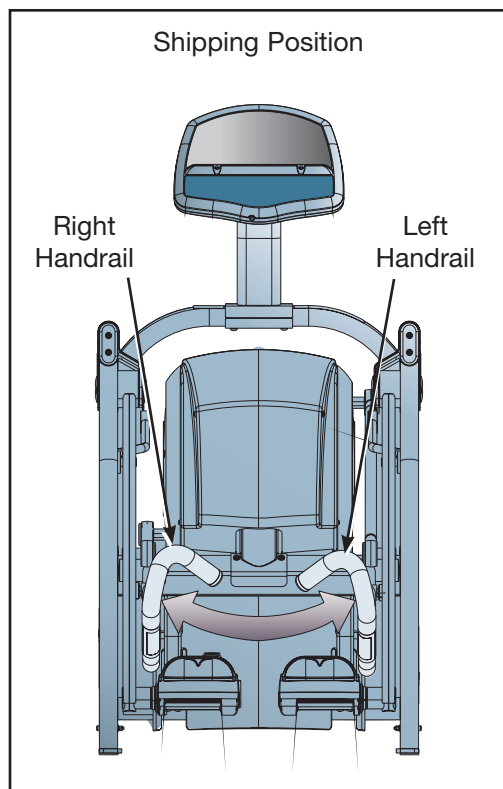

Figure 5
NOTE: The Left and Right handrails are shipped in the reverse positions. The handrails must be removed and swapped for proper setup and assembly. See Figure 5.
NOTE: The right handrail is mounted on the left side. See Figure 5.
NOTE: The left handrail is mounted on the right side See Figure 5.
- E. Remove the left handrail from the right side. See Figure 5.